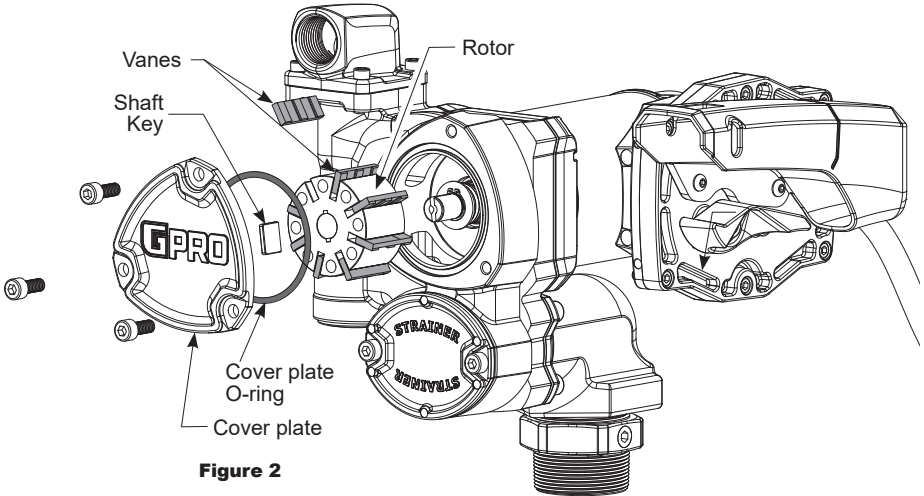

Figure 2
2. Using 6mm hex wrench, remove the cover plate and O-ring (see Figure 2).